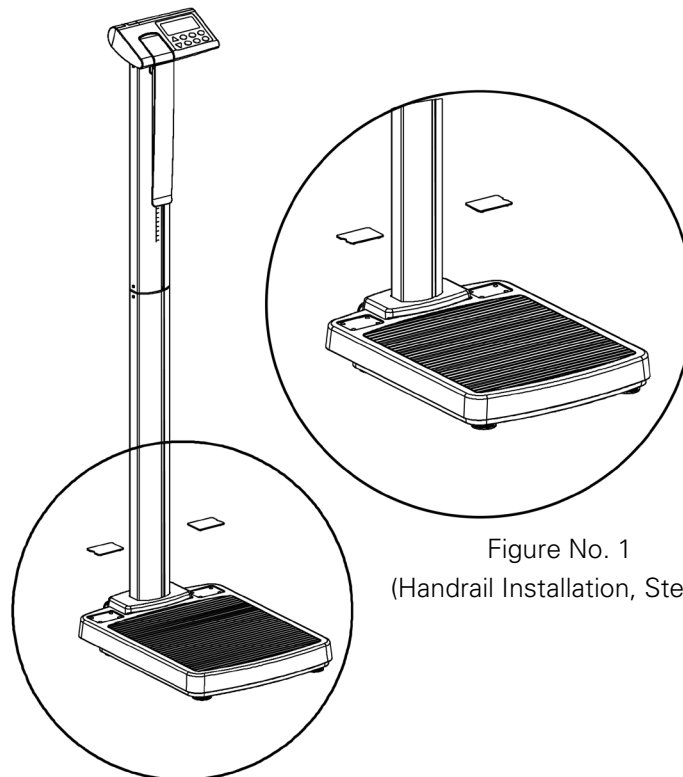

Figure No. 1
1. Referring to Figure No. 1, remove the handrail covers, (one on each side of the column) from the scale platform.